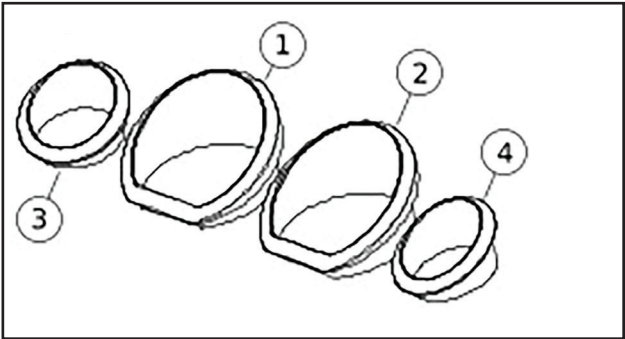

Figure 1. Service Parts: Gauge Trim Kit
See Figure 1 and Table 1.
2. See Figure 1. With the adhesive backing still in place, test fit the trim rings to inner fairing.